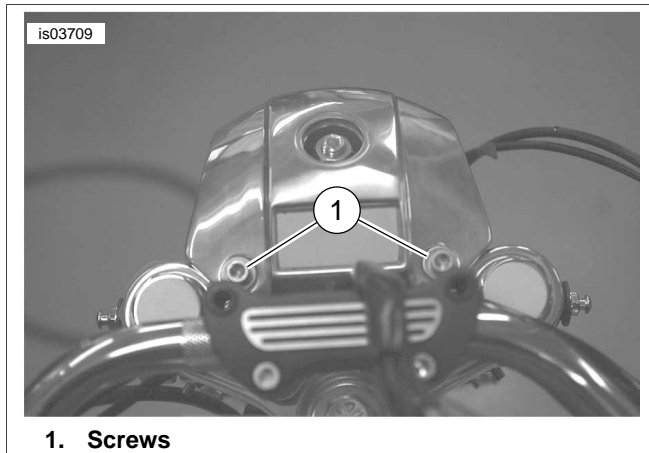

Figure 3. Remove Headlamp Mounting Bracket Hardware
- See Figure 3. Remove the two screws (1) and washers securing the headlamp mounting bracket and gently allow the mount to hang down to the left side of the forks. Save bracket screws for installation.
23. See Figure 3. Return headlamp bracket to its mounted position and secure using two screws (1) and washers removed in earlier step. Tighten to 120-192 **in-lbs** (14-22 Nm).